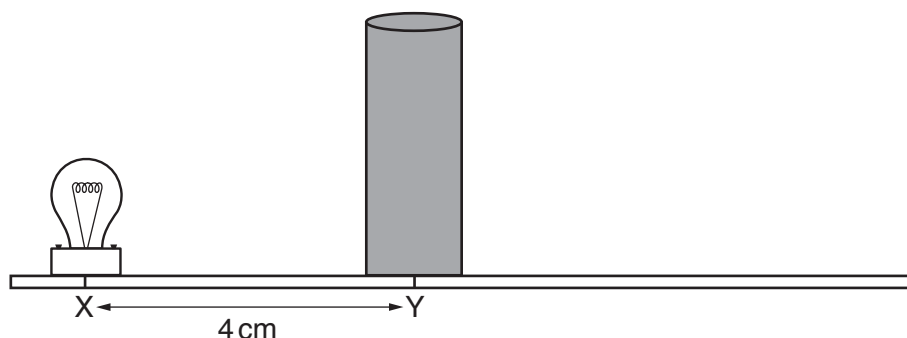

Fig. 2.1
1. Small torch lamp of approximate diameter 1 cm, e.g. 2.5 V, 250 mA, clear filament indicator lamp (e.g. RS 106-313). This must be placed in a small holder e.g. RS 171-2503 so that the filament of the bulb is less than 5 cm above the bottom of the base and the base has a diameter of less than 7 cm. The lamp and holder must be placed on the bench as in Fig. 2.1.